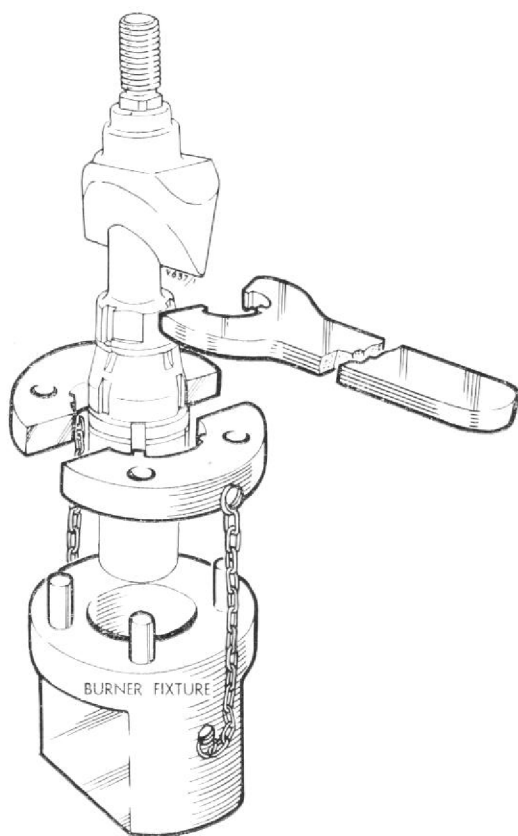

Fig. 5. Removing burner from holder, using fixture T.77086 and a 'C' spanner.
1. Place fixture T.77086, Fig. 5, in a vice and tighten up securely.